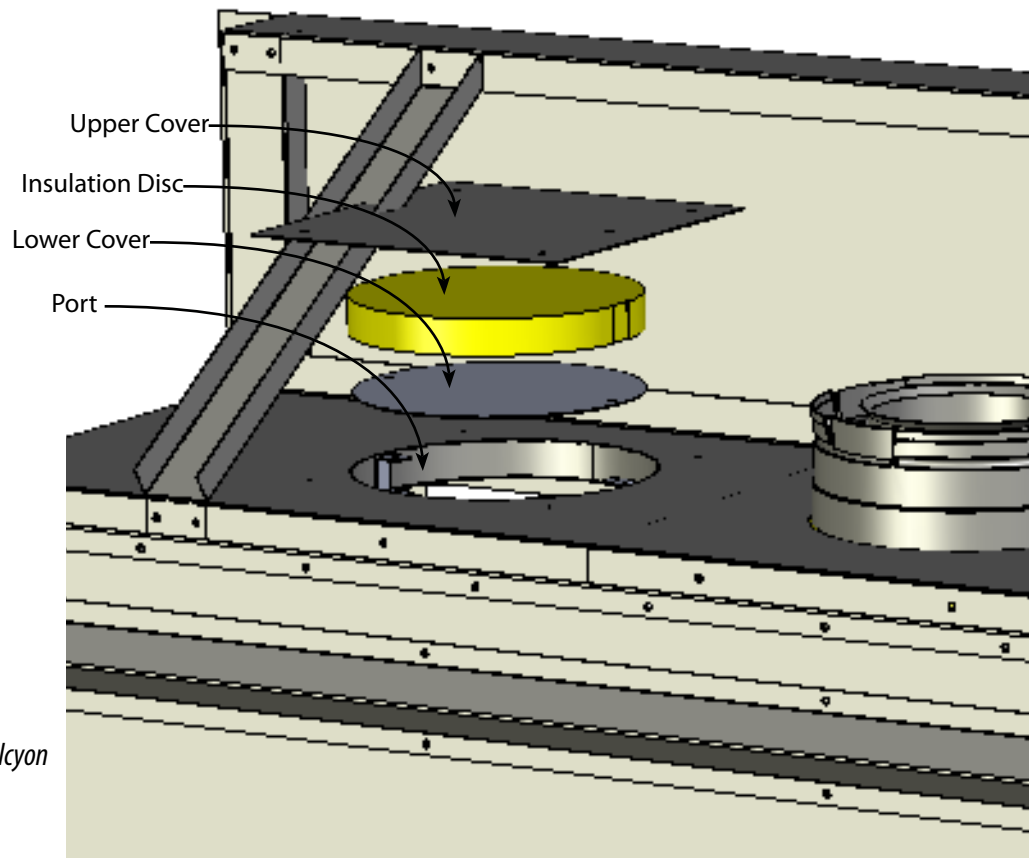

Figure 32 - Exploded View of the Halcyon
- Remove the screws holding the left and right upper cover. Remove both covers. See *Figure 32*.